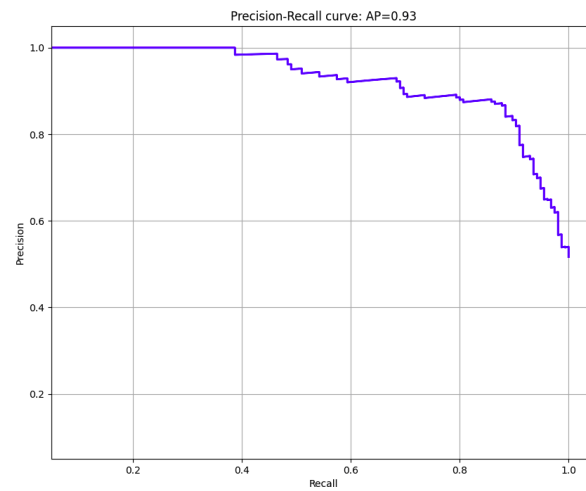

Figure 5: PR curve
Figure 5 is a Precision-Recall (PR) curve, which shows the trade-off between precision and recall for different threshold values. The average precision (AP) is 0.93, suggesting that the model maintains high precision across different levels of recall. This curve is particularly useful when dealing with imbalanced datasets, as it focuses on the performance of the positive class. The optimal threshold can be determined using the F1 score, which balances precision and recall, ensuring that both false positives and false negatives are minimized effectively. In this case, optimal threshold for PR curve is 0.4292.(Figure 6.)